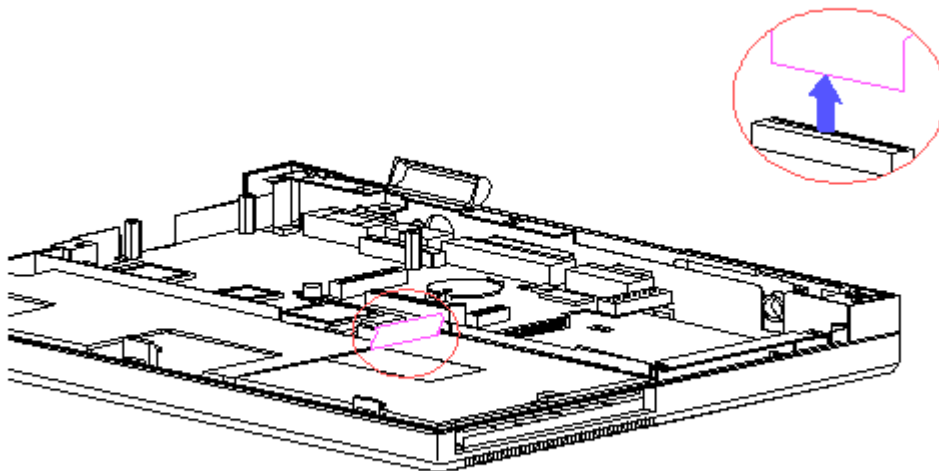

Figure 2-29. Removing the Diskette Drive Cable and LIF Connector
3. Disconnect the diskette drive cable from the LIF connector located on the processor board (Figure 2-29). (Note that the end of the cable that connects into the processor board is labeled with the letter "B," and the end of the cable that connects into the diskette drive is labeled with the letter "R.")